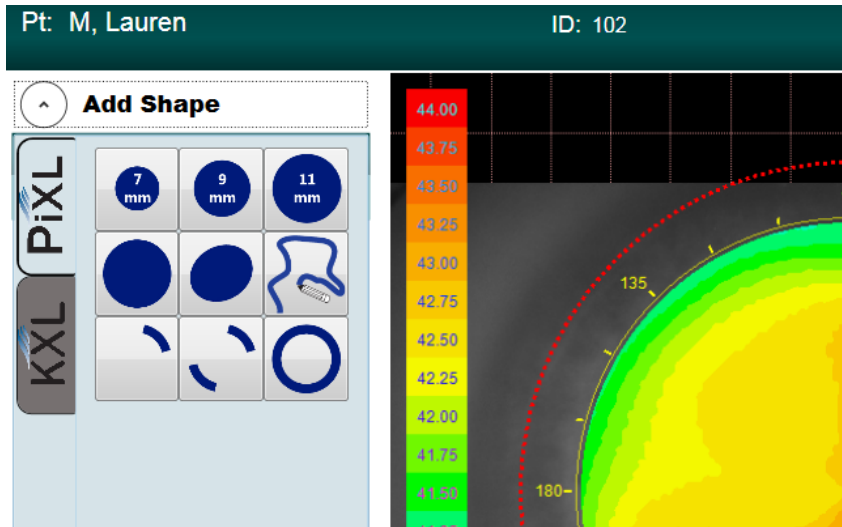

Figure 5-6. Treatment Shape Selection
- Select a PiXL treatment shape from the drop-down list as depicted in Figure 5-6: